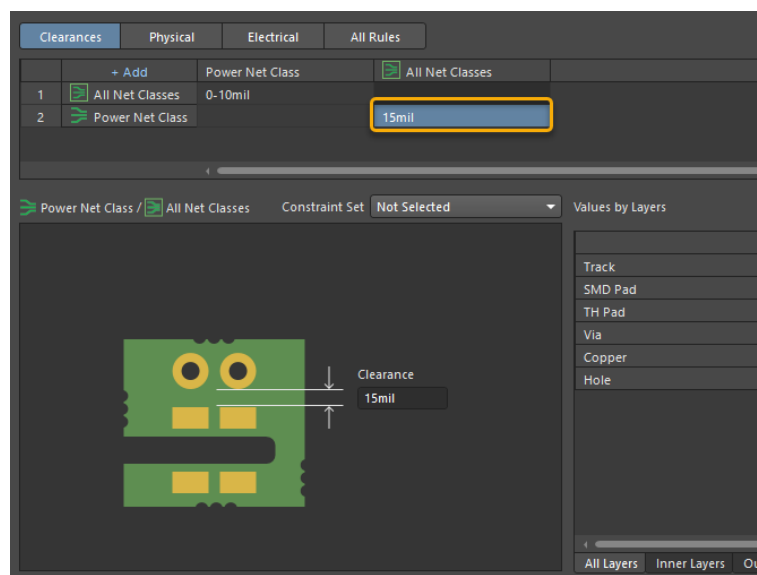

Figure 7. Clearance for the Power Net Class
20. From the matrix, select the cell *Power Net Class* in the *All Net Classes* column and change the value to 15mil, as seen at Figure 7.